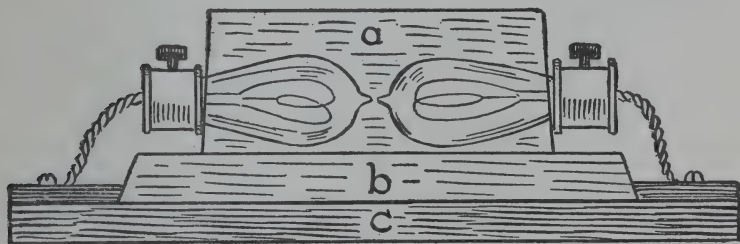
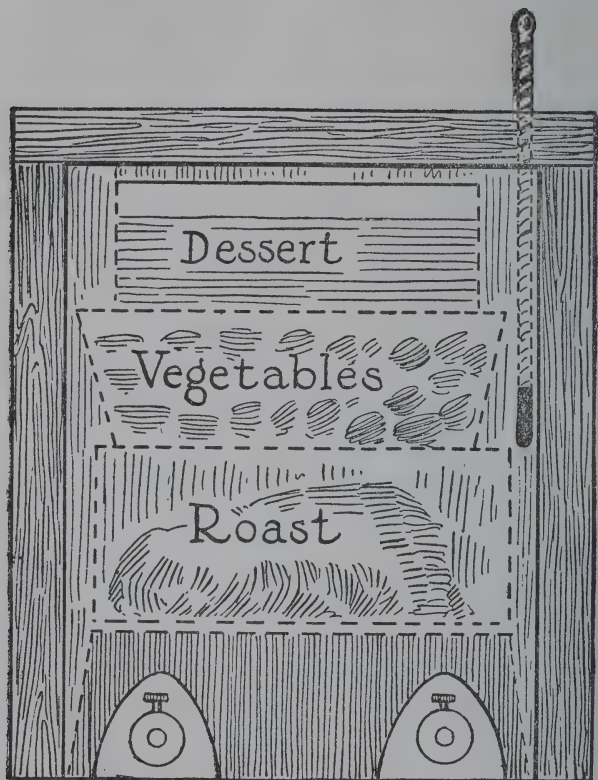

Fig. 89
Fig. 91
20. *Cooking with Incandescent Lamps.* — This piece of apparatus was devised by the boys and used in my laboratory. A sheet iron basin *a*, was inverted over four 16-candle-power incandescent lamps, shown in elevation by Fig. 89, and shown in plan by Fig.
We procured a cylinder of magnesia such as is used for covering large steam-pipes. This was inverted over our electric stove which was illustrated in Fig. 89. The magnesia was cut at the bottom, so as to give access to the key sockets of the lamps, (Fig. 91). First upon the electric stove was placed a covered dish containing a roast of lamb. Above this was another dish containing a vegetable, and upon the top of that was a pudding. A flat piece of magnesia was used as a cover to the whole. Through a hole in this was suspended a thermometer.